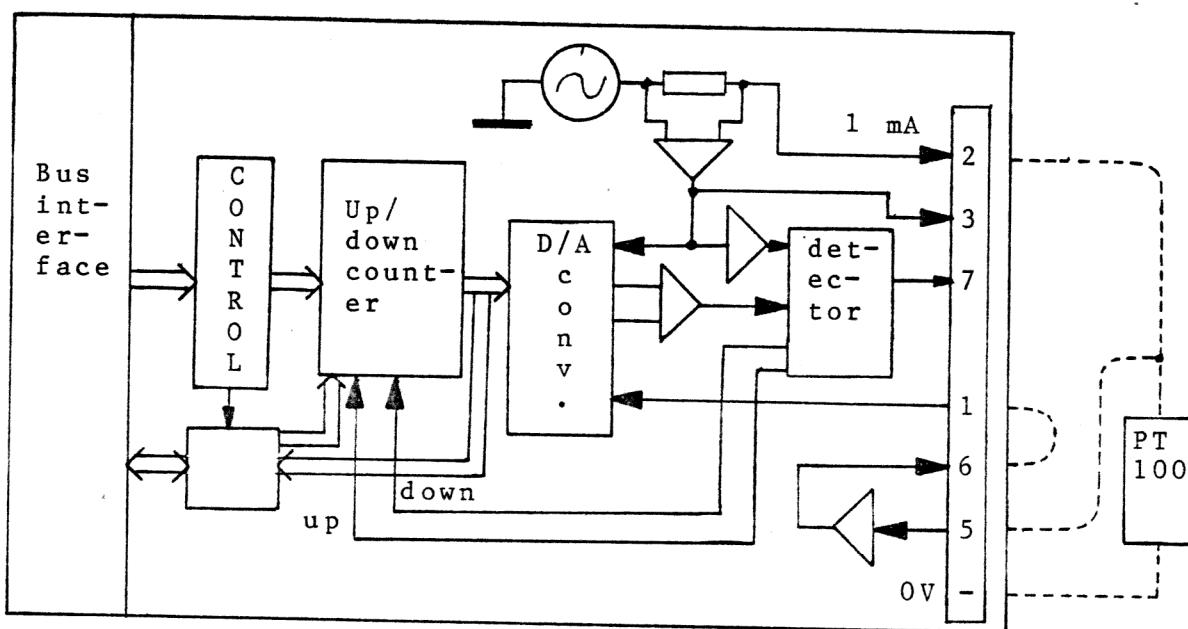

Fig.1. PT100 Block Diagram
- The converter card feeds 1 mA alternating current (200Hz) to the PT100 transducer. The voltage over the resistor is feed to a multiplying D/A - converter. The difference between this and an internal reference voltage is detected synchronously and controls an up/down counter until the PT100 signal is balanced.(See fig 1) When balanced, the signal into the detector is zero which minimizes the effect of variations in the detector.
- Omvandlarkortet levererar ca 1 mA växelström (200 Hz) till PT100 givaren. Spänningen över givaren går in på en multiplicerande A/D omvandlare. Skillnaden mellan denna och en intern referensspänning detekteras synkront och styr en upp/ner räknare tills PT100 signalen balanseras bort.(Se fig 1) Vid balans är signalen in på detektorn noll, varvid inverkan av detektorvariationer minimeras.
2. When connecting one PT100 transducer directly, the drive current is connected to pin 2 with return to 0 volts. Connect the transducer to the amplifier with the active signal on pin 5 and the return on 0 volt. The amplifier output(pin 6) is connected with a jumper to the D/A converter input at pin 1. (See figure 1.)